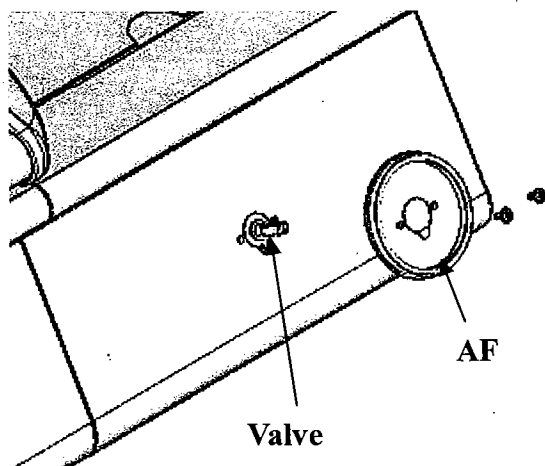
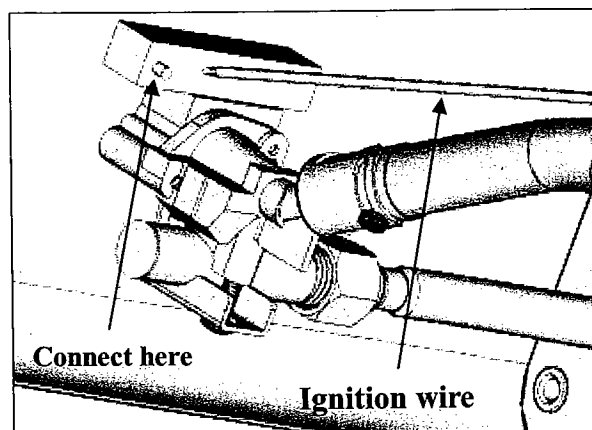

Fig. 28
Fig. 29
- c. Align the bezel (AF) to side cooker shelf control panel; insert the valve through side cooker shelf control panel and bezel, and make sure the orifice alignment with the side burner (refer to page 31 Fig. 45.). Insert two M4×8 screws (AG) through the bezel and the side cooker shelf control panel, and tighten the screws to secure the valve (see Fig. 28). Then, connect side burner ignition wire to the ignition device. (See Fig.29)